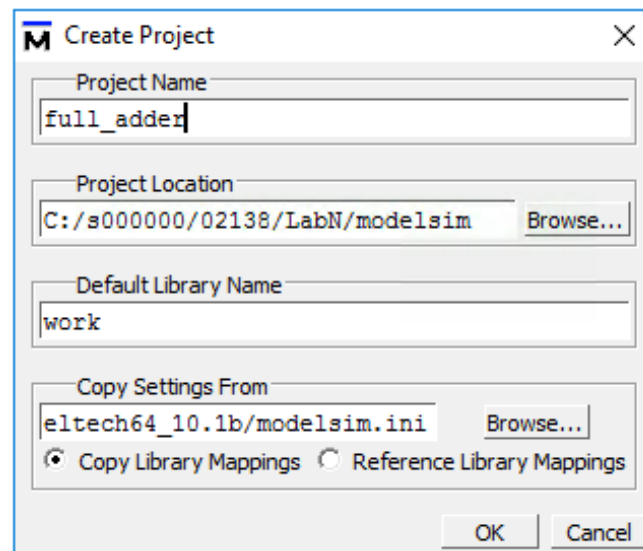

Figure 4. Create project.
2. Create a new project by selecting “File -> New -> Project.” Then the window showed in Figure 4 pops up. For “Project Name” write “full_adder” and for “Project Location” select the directory that you have created in Section 2 (C:\s000000\02138\LabN\modelsim). Then click OK.